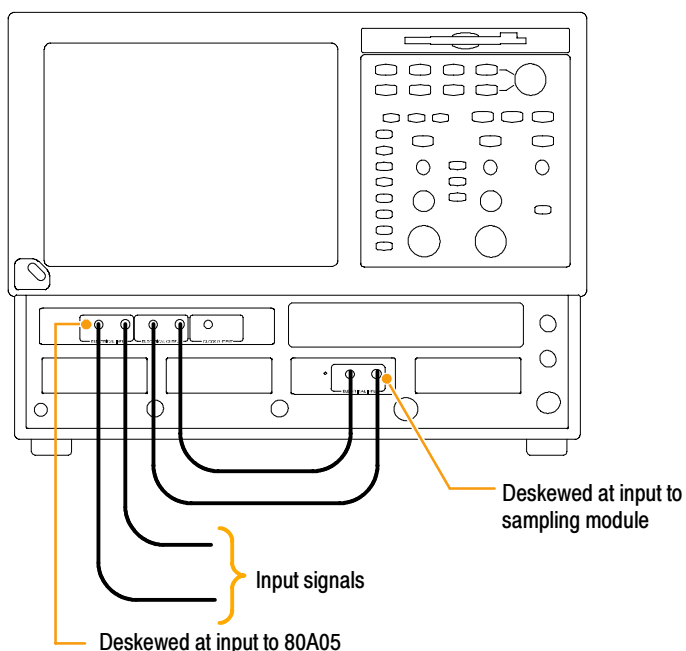

Figure 9: Deskewing multiple input signal paths with the 80A05
- If you are also viewing the signals out of the 80A05 module, for best results, you need to deskew again, this time from the 80A05 module to the sampling module(s) inputs. This is shown in Figure 9.